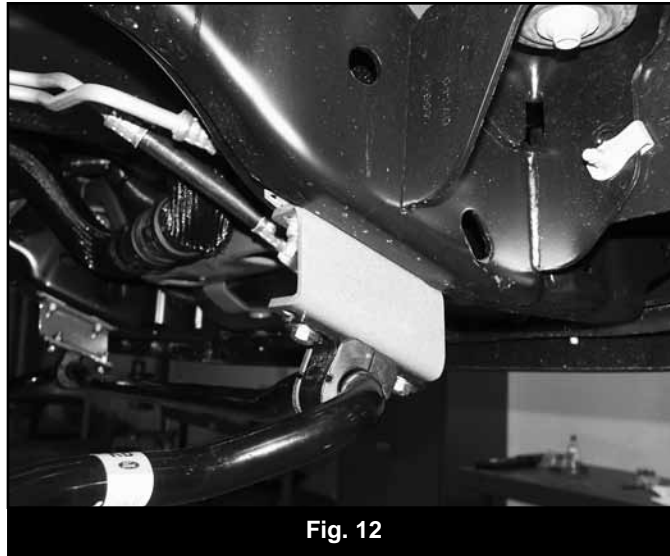

Fig. 12
31. With both radius arms relocated, reattach the upper radius arm-to-axle mounting bolts. Leave loose. Note: All (6) radius arm bolts will be torqued with the weight of the vehicle on the axle.
36. Attach the sway bar to the new drop brackets in the correct orientation with the $\frac{3}{8}$ " hardware from bolt pack #422. Torque hardware to 30 ft-lbs (Fig 12).